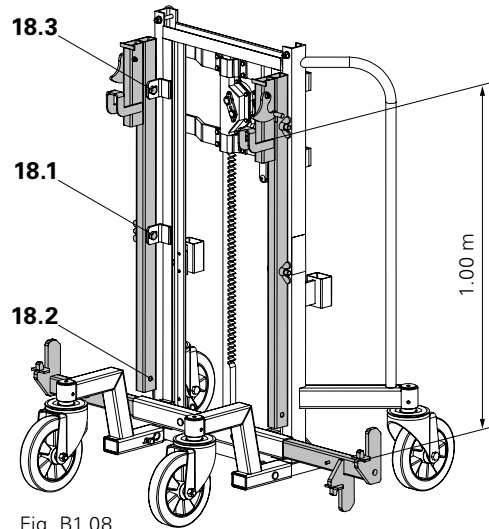

Fig. B1.08
1. Mount the top connector of the Trolley with Winch at the respective top (18.3) and middle (18.1) holes. The bottom hole (18.2) remains free. (Fig. B1.08 – B1.08c)